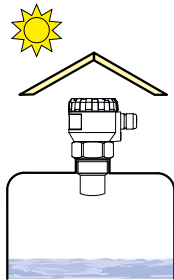

Fig. 11: Solar radiation shielding cover
- The level meter must not be installed in places with direct solar radiation and must be protected against weather effects. If the installation in places with direct solar radiation is inevitable, it is necessary to mount a shielding cover above the level meter (Fig. 11).